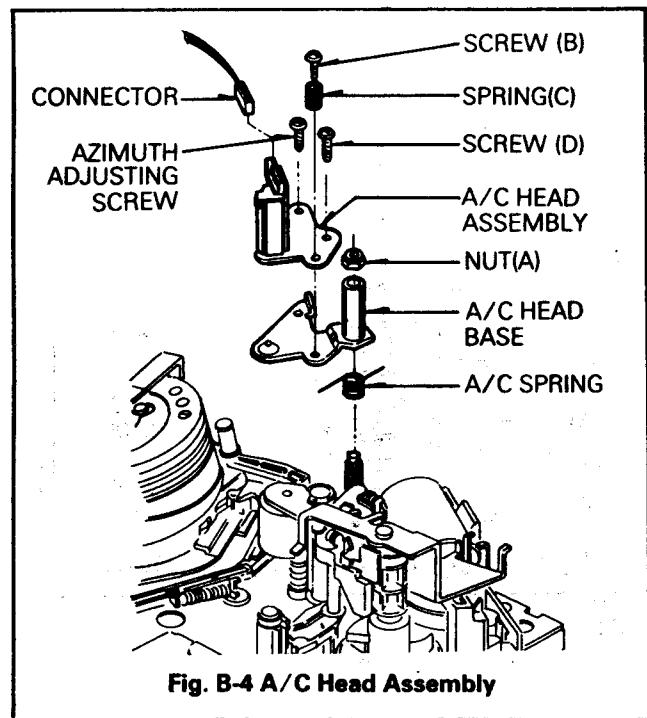

Fig. B-4 A/C Head Assembly
**4. A/C(Audio/Control) Head Assembly (Fig.B-4)**